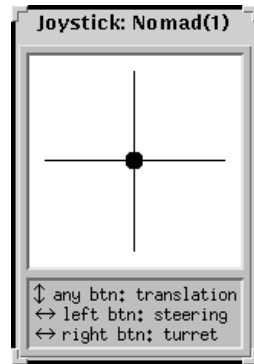

Figure 3.4 The Soft Joystick Figure
- Select the PANELS item in the robot window, and choose JOYSTICK. The window of Figure 3.4 will appear. The crosshairs represents the two degrees of freedom of the physical joystick. The central dot is the joystick: the robot moves according to its position.